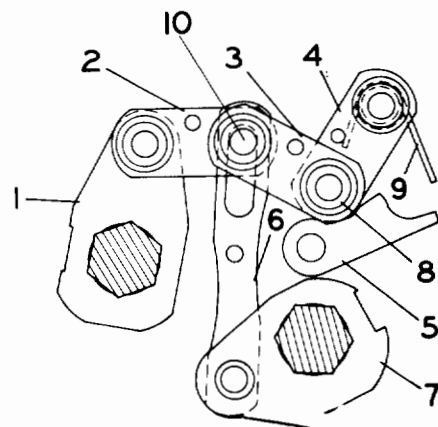

Fig. 3 Toggle Linkage Positions of ML 17 Mechanism
will be holding the close toggle (20, 21) against the frame through link (19), and the trip latch (18) will be held out of engagement clockwise by the trip toggle roller (52). The toggle linkage will appear as shown in Fig. 3(d). When the closing spring is discharged, switch operator (44), operates the motor limit switch (43). If the close-latch-checking switch (5) is made and power is available, the gearmotor (45) will drive the wind hub (11) counterclockwise. Slow-close pawl (10) will be held out of possible engagement with the wind hub notch by the action of the slow-close pin (48).
With the close spring charged and the breaker open the toggle linkage is as shown in Fig. 3(a).
By either energizing the close solenoid or depressing the manual close button, the close latch (4) is rotated counterclockwise and releases the close roller (3) permitting the flywheel (1, 2) to rotate counterclockwise by the force of the close spring. This action, transmitted to the slotted link (17) by means of the pull rod (13), transfer crank (14, 16), pulls the close toggle (20, 21) through the center against link (19) which is tied to the frame. This action rotates the output crank (22) counterclockwise. The Pole 1 bellcranks (23), on the same shaft as the output crank, also rotate counterclockwise, and by means of the horizontal connecting bar (28), rotate Pole 2 and 3 bellcranks. This rotation compresses the opening spring (29), closes the vacuum interrupters connected with each operating rod (25), and compresses the wipe spring (26) on each pole when the trunnion (24) continues moving after the operating rod (25) stops. Rotation of an arm (34) coupled to the output shaft (DD) changes the auxiliary switch (37) position, and the position flag (38) indicates "CLOSED". The lever (44) is moved out of the notch in the flywheel (2) and, with the close latch (4) in position to catch the close roller, the limit switch (43) energizes the gearmotor as described under CLOSE SPRING CHARGING. With the breaker closed, closing spring discharged, the toggle linkage appears as shown in Fig. 3(b). With the circuit breaker in the closed position, the links (17) can move up past the close toggle without disturbing it as they are slotted to accommodate a close spring charging in the breaker-closed position. With the close spring charged, breaker closed, the toggle linkage appears as shown in Fig. 3(c).